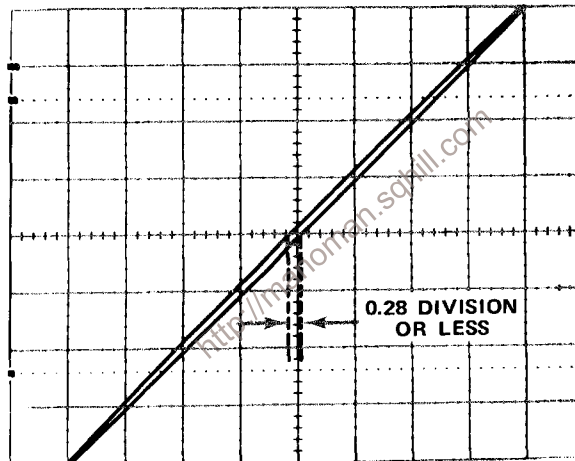

Figure 5-5. Typical crt display when checking X-Y phase shift.
e. CHECK—The lissajous display for an opening at the center vertical line of 0.28 division or less (indicates two degrees or less of phase shift; see Figure 5-5).